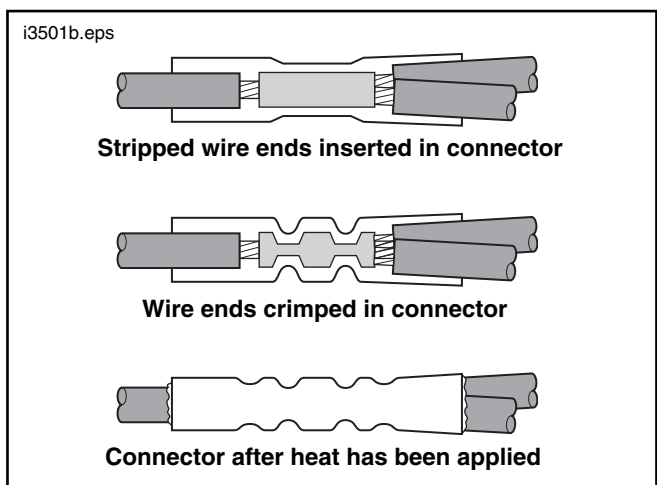

Figure 10. Installing Sealed Butt Splice Connectors
- e. See Figure 10. Using the UltraTorch UT-100 (H-D 39969), Robinair Heat Gun (H-D 25070), or other suitable radiant heating device, heat the crimped splice to encapsulate the butt splice connection. Apply heat from the center of the crimp out to each end until the meltable sealant exudes out of both ends of the connector. Let the splices cool.